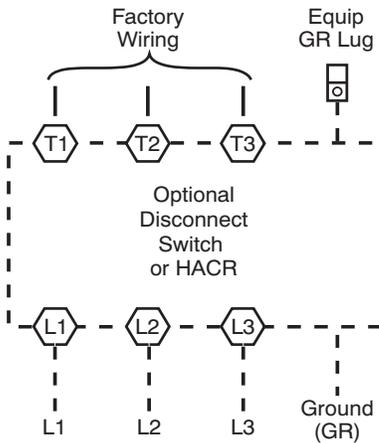

Fig. 22 — Power Wiring Connections
Size wire based on MCA (Minimum Circuit Amps) on the unit informative plate. See Fig. 22 for power wiring connections to the unit power terminal blocks and equipment ground. Maximum wire size is 2/0 AWG per pole.
3. Install power lines to terminal connections as shown in Fig. 22.